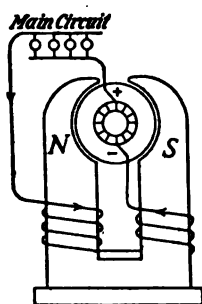

FIG. 285.—A series-wound dynamo.
*A. The series wound dynamo* (see Fig. 285) is arranged so that *all* of the current produced by the armature is sent through coils of coarse wire upon the fields, after flowing through the external circuit.